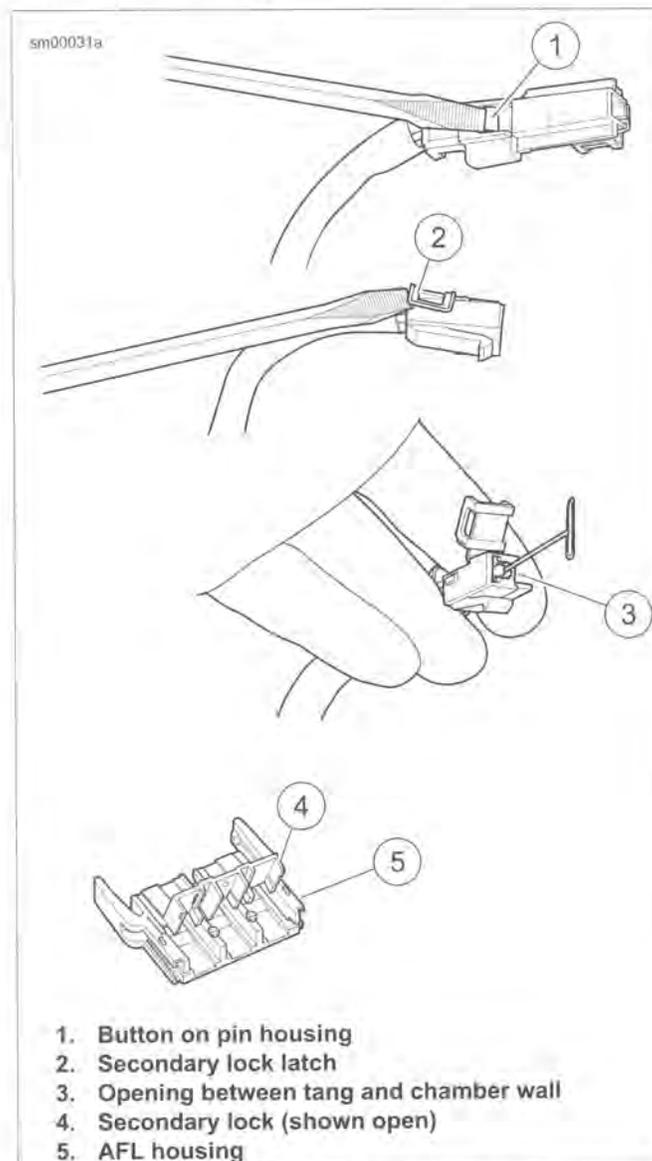

Figure A-18. Delphi 480 Metri-Pack Unsealed Connector: Remove Socket Terminal
See Figure A-18. An AFL housing (5) is used on many ignition/light switches. The secondary lock (4) must be opened before removing the terminal from the housing.
See Figure A-18. Using small flat blade screwdriver, press button (1) on pin housing (red wire) side of the connector and pull apart the pin and socket housings.
1. See Figure A-18. Bend back the latch (2) slightly and free one side of secondary lock, then repeat to release the opposite side. Rotate the secondary lock outward on hinge to access terminal in chamber of connector housing.
2. On the mating end of the connector, note the tang in the square shaped opening centered next to the terminal. Gently insert the point of a stick pin or large safety pin into the opening (3) between the tang and the chamber wall until it stops.